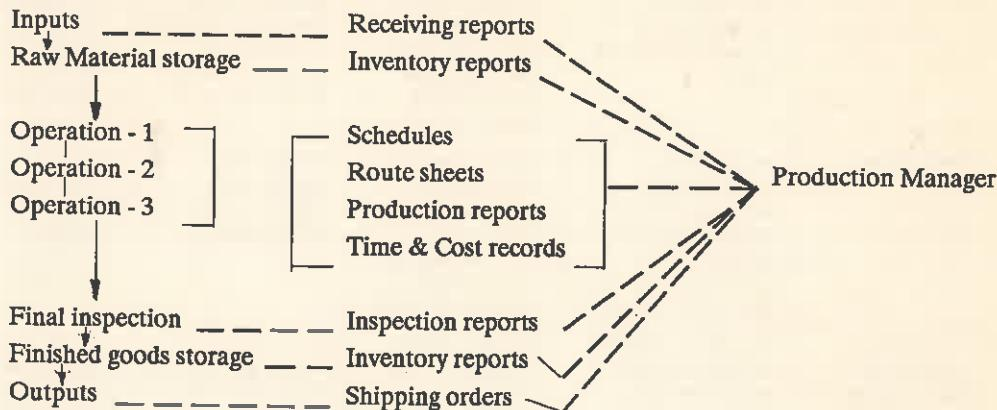

Fig. 2.1. A simplified production system.
- At one end of the production system are the *inputs* and at the other end are *outputs*. Connecting the inputs and outputs are a series of operations or processes, storages and inspections. Fig. 2.1 represents a simplified production system.